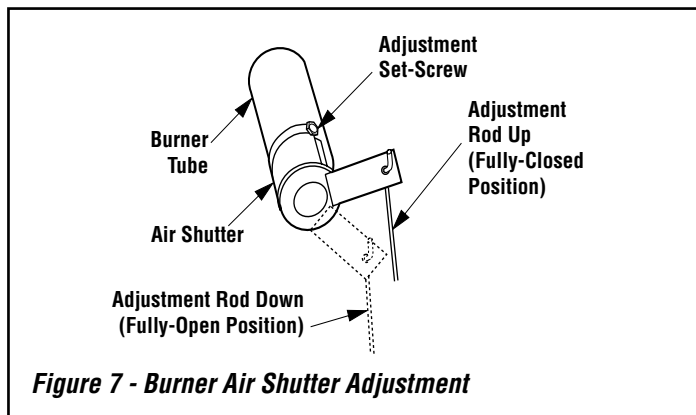

Figure 7 - Burner Air Shutter Adjustment
Step 8. 40" & 45" Gemini-C and Gemini-E models ONLY. Remove the air shutter adjustment screw (**Figure 7**) and remove the air shutter (1/4" nut driver/ socket) from burner. Use air shutter rod from removed air shutter and place on new shutter provided in this kit. Install new shutter assembly on burner. Discard the removed air shutter.
Step 9. Retrieve the burner and hold the venturi tube above the orifice. Place the shutter adjusting rod in the slot of the shutter arm (**Figure 7**). Set the burner assembly into its position and secure using two screws.
Step 14. Adjust the burner air shutter per instructions in the Installation and Operation manuals and **Table 2 and Figures 7 and 8.**
1. Adjust the air shutters per instructions in **Figure 7** and **Table 2.**
Step 15. Relight the main burner. The lighting instructions can be found on the lighting label in the control compartment. Verify proper burner ignition and operation (**Figure 7**).